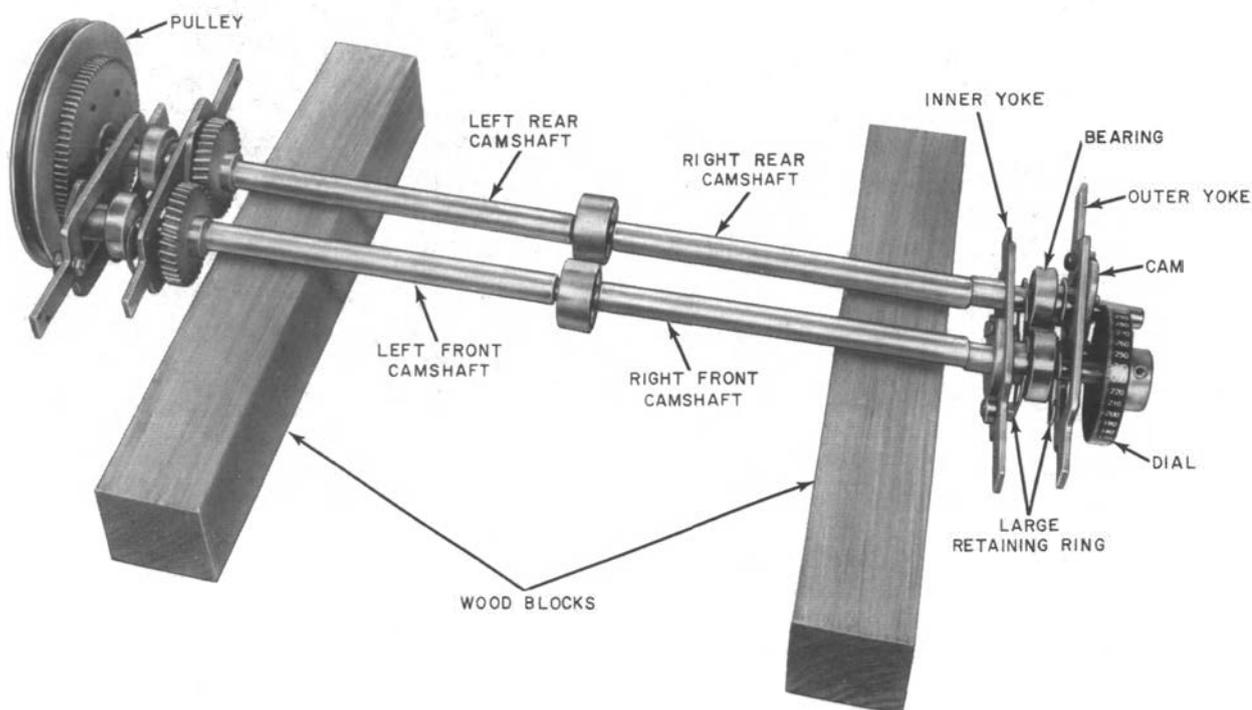

Fig. 53—Cam Drive Shaft Assemblies and Associated Parts
(c) Remove the camshaft assemblies and place the assemblies on the wood blocks as shown in Fig. 53.
(d) Separately remove both shaft assemblies, and place on the wooden blocks similar to the assemblies shown in Fig. 53.
Removing Dial (Fig. 53)
Removing Pulley and Gear (Fig. 53)
Right Front and Right Rear Camshafts (Fig. 53)
(b) Place the inner yoke on the camshaft as shown in Fig. 53.
- (54) Place the large inner retaining ring on the shaft.
- (55) Mount replacement outer bearing on both shafts by starting each bearing on the associated shaft with the bearing positioned against the small retaining ring on the right rear camshaft and against the cam collar on the right rear camshaft by using the brass tubing in accordance with (47) through (49).
- (56) Mount the small bearing retaining ring in the associated groove on the right front camshaft as required.
- (57) Mount the outer large retaining ring.
- (58) Mount the outer yoke assembly (earlier arrangement) as shown in Fig. 53 as required.
- (59) Mount the cam on the right rear shaft with the associated collar facing the bearing, and make sure that the scribed lines on the cam and shaft are in alignment.
- (60) Position the cam so that the hole in the cam is in line with the hole in the shaft.
- (61) Remount the roll pin using the 1/8-inch drive pin punch and 4-ounce riveting hammer.
- (62) Remount the dial and clamp assembly on the right front camshaft but do not tighten the clamp screws.
- (63) Remount the pulley on the left rear camshaft aligning the scribe lines on the pinned assemblies.